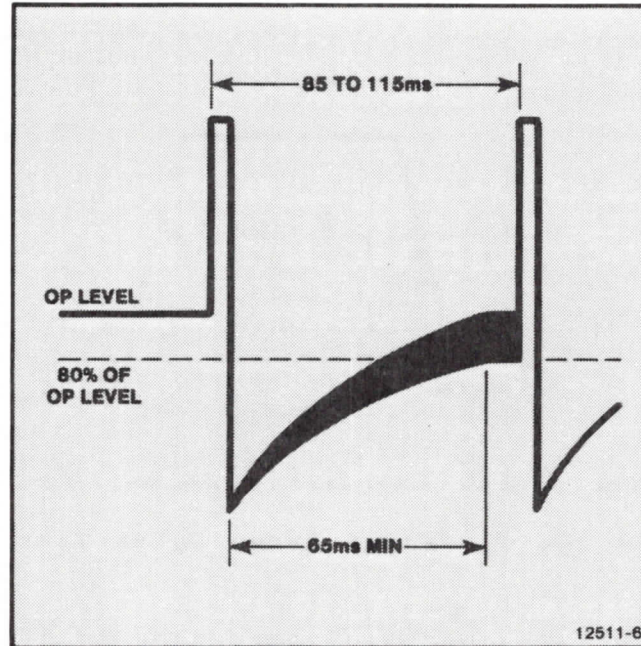

Figure 10-15. Target Erase Waveform Enlarged.
13. Refer to the second waveform (Figure 10-15) and do the following: